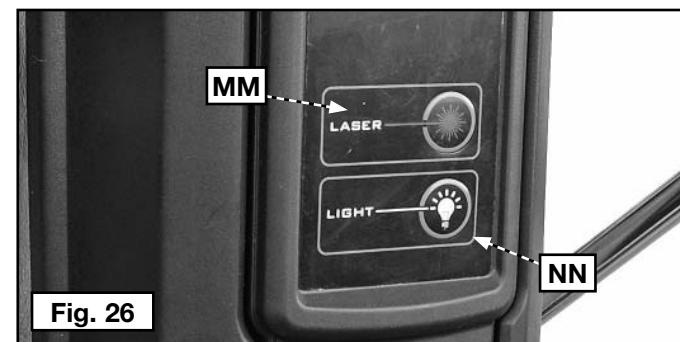

Fig. 26
Push "LASER" button (MM) Fig. 26 to turn on or turn off the crosshair lasers.
Push "LIGHT" button (NN) Fig. 26 to turn on or turn off the LED work light.